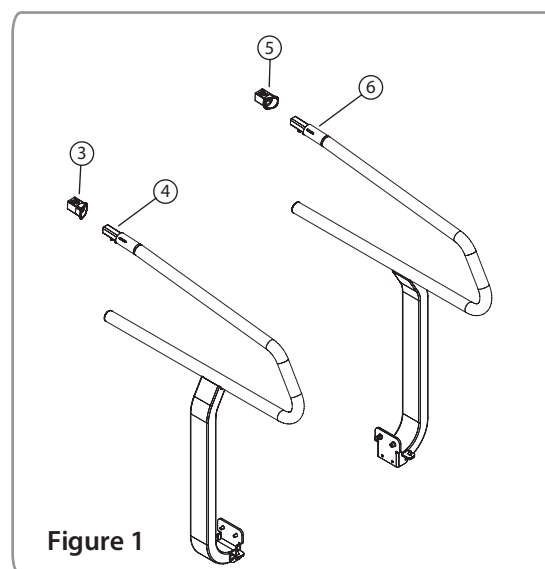

Figure 1
- A. Slide the new left handlebar end cap (3) onto the left handlebar (4) and the right end cap (5) onto the right handlebar (6). (FIG. 1)